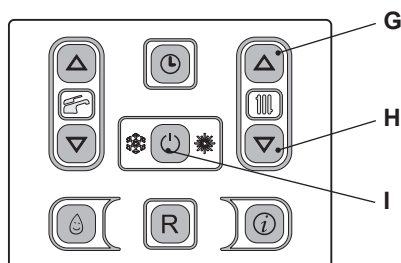
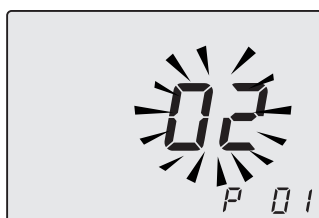
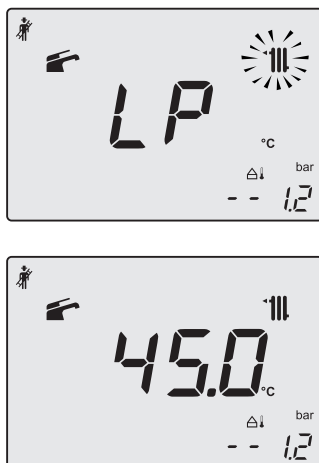
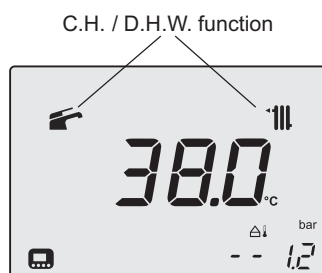

Figure 11.5
Figure 11.6
Figure 11.7
Figure 11.10
- 16 To enter in the parameters setting mode press sequentially and hold in the 3 keys "G - H - I" (Figure 11.5) for 10 second until the display shows Figure 11.6.
- 17 Press keys "G" and "H" (Figure 11.5) at the same time until the display shows the letters **LP** that alternate with the heating water temperature value (e.g. 45), indicating the activation of the "chimney sweep function" at minimum output (Figure 11.7).
- 24 Press keys "G - H - I" (Figure 11.5) at the same time again to exit the "chimney sweep mode" and return to the previously set boiler status (Figure 11.10).